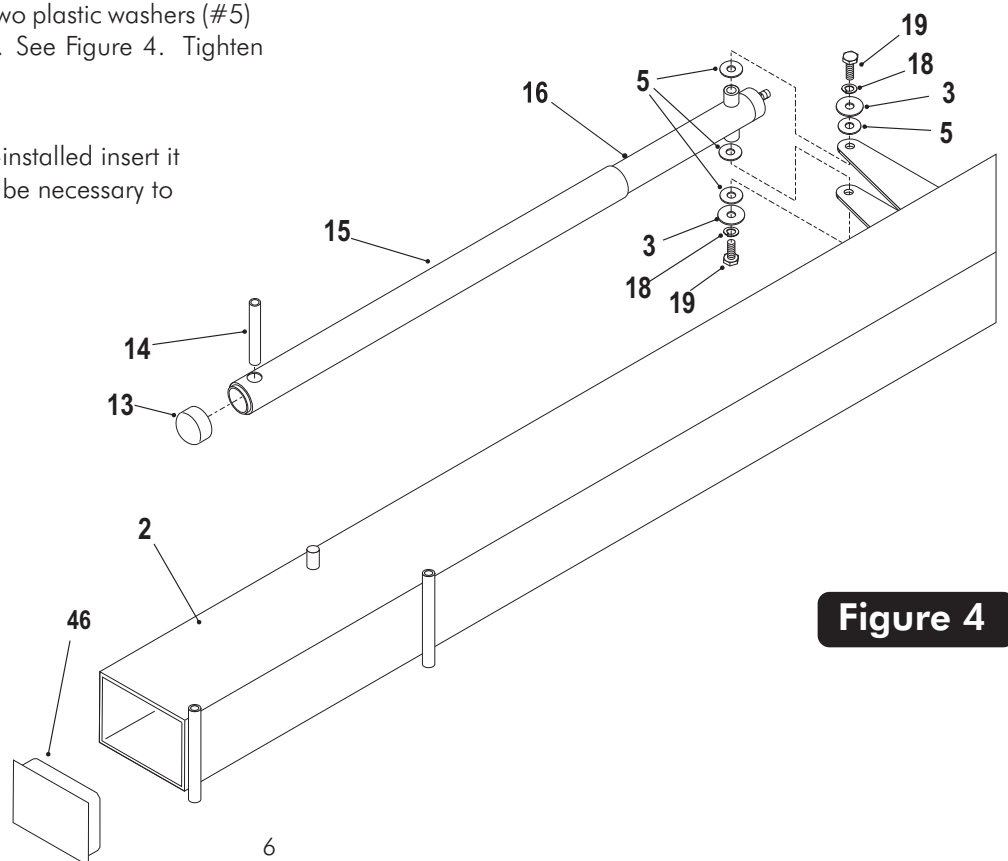

Figure 4
2. Slide Actuator Sleeve (#15) over Actuator (#16) and place Actuator Cap (#13) on top. Slide Pivot Tube (#14) in hole near the top of **Actuator** and **Actuator Sleeve** until equal amounts stick out on both sides of Actuator. See Figure 4.
3. Lay Pole (#2) on its side on two padded saw horses. Attach Actuator (#16) to Pole (#2) using one bolt (#19), split lockwasher (#18), washer (#3) and two plastic washers (#5) to thread into each side of Actuator. See Figure 4. Tighten bolts tight.